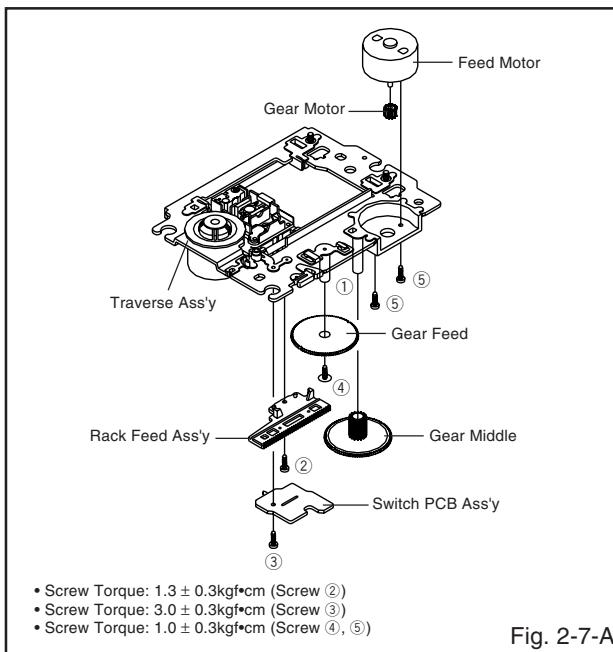

Fig. 2-7-A
- F 1. When installing the Rack Feed Ass'y, push both ends to align the teeth as shown Fig. 2-7-B. Then install it.